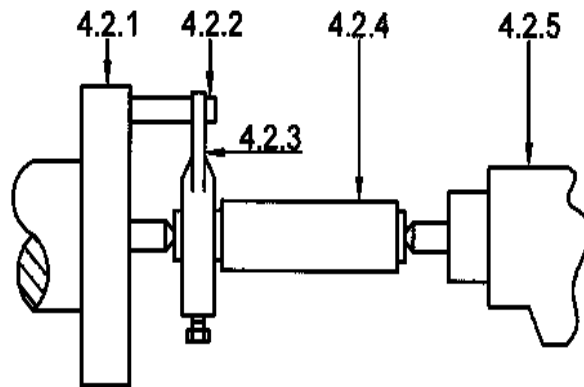

FIGURE 4
4.2 FIGURE 4 shows a workpiece being held between centres during machining. Carefully study the operation and label the components that are marked 4.2.1–4.2.5.